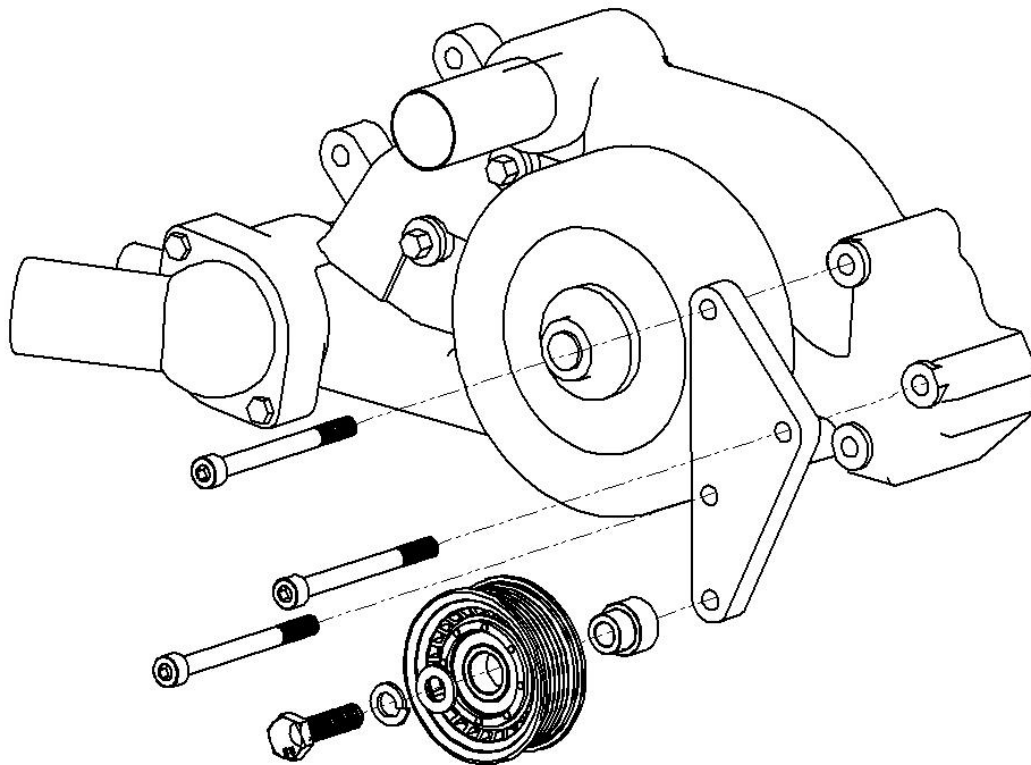

FIGURE 1
- 2) Install the Water Pump using OEM bolts on the LH side and LOJ Innovations supplied bolts on the RH side, the pump is installed WITH the RH Idler Bracket! See figure 1 Below...
- 3) After the water pump and idler bracket are installed, install the ribbed idler pulley to the idler bracket using the supplied hardware, in the order shown in figure 1. This idler uses the shortest of the M10 bolts supplied in the kit, it has a 40mm underhead length (UHL).